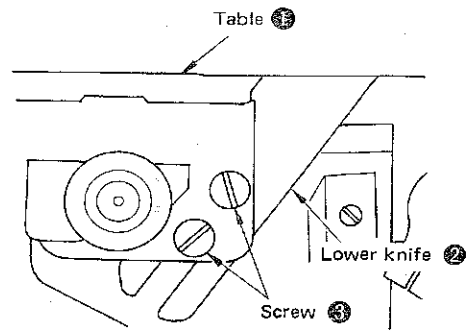

Fig. IV-4-2
The lower knife should be in its standard position where the blade of lower knife ② is almost flush with top surface ⑤ of the table. Tighten two screws ③ so that the lower knife is fixed tightly in place. (See Fig. IV-4-2)